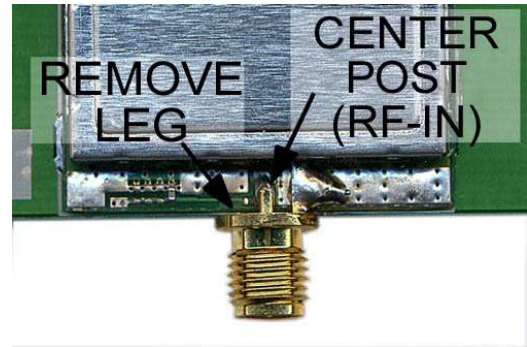

Figure 7, SMA Modification
- 4.2 Before soldering the RF module in place, temporarily slide the three-legged SMA-RP connector onto the module's RF output (see Figure 7, next page). Adjust the module's placement on the PCB until the center pin of the SMA-RP is centered on top of the module's RF output trace. Once positioned, solder the module's four corners and its ten pins. Do NOT solder the SMA-RP at this time.
As seen in figure 7, cut off the ground leg that is on the top left side. This is needed to prevent shorts to the module's nearby circuitry (on some modules there is a tiny 0402 sized SMD resistor residing there).
- 5.3 Carefully solder the three ground legs and the center post, as shown in Figure 7. Ensure the module's metal enclosure is not shorted to the center post conductor. Clean off ALL flux, even if no-clean solder was used. Do a visual inspection (do NOT use an ohmmeter).